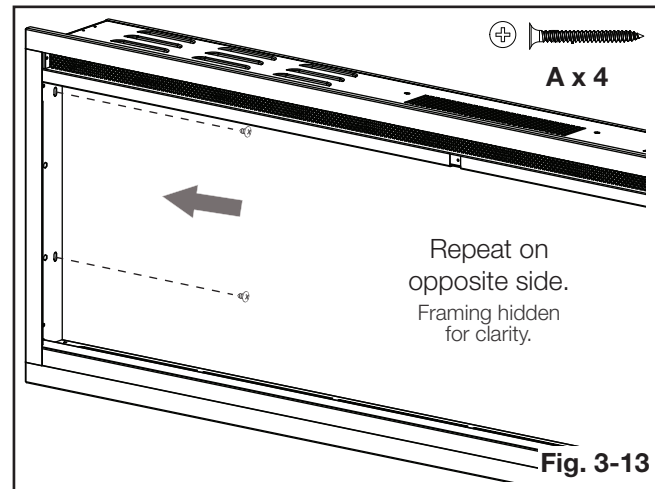

Fig. 3-13
- E. Secure two screws (supplied) to the stud through the two slot holes from each side of the appliance (**Fig. 3-13**).